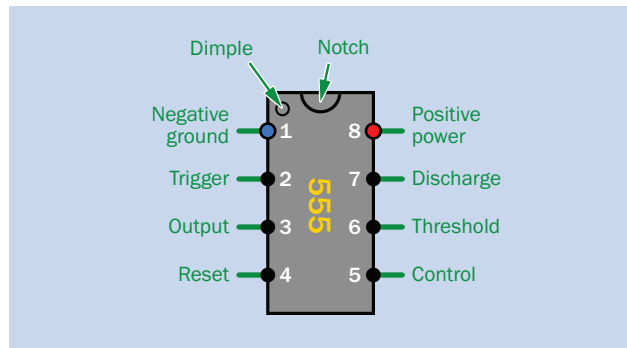
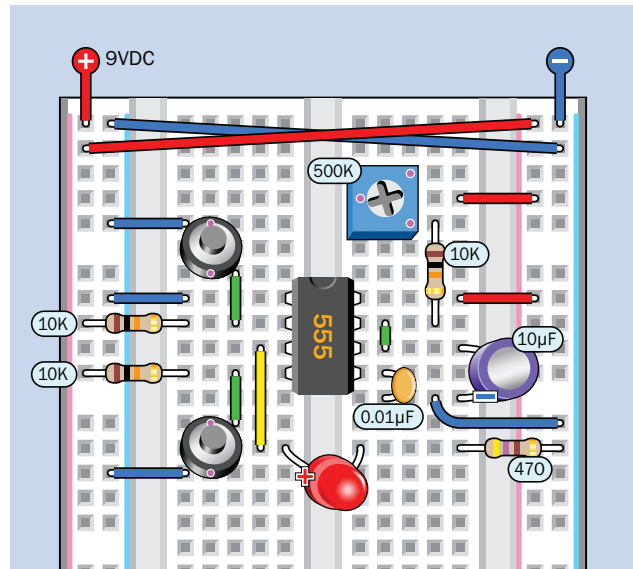
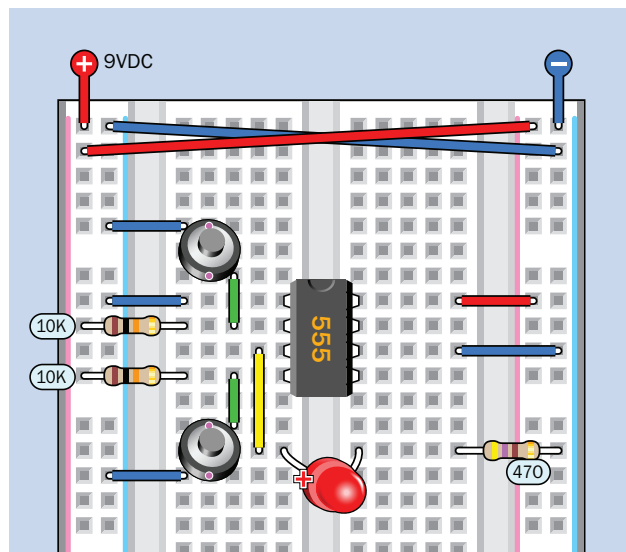

Figure 15-10. Pinouts of a 555 timer.
Figure 15-11. Testing the 555 timer in monostable mode.
Figure 15-18. The timer is now wired in bistable mode.
Figure 15-10 on the next page shows information about the pin functions of a 555 chip, assuming that the timer is viewed from above. Labels like these are often referred to as pinouts for a chip.
Figure 15-11 shows the first circuit which I would like you to build, to test the features of the chip when it is running in *monostable* mode. In that mode, when the timer is triggered by a change in voltage on one of its pins, it creates a single pulse from another pin.
- In this experiment I am starting to use the dual buses of your breadboard, because they make the wiring much simpler. With this in mind, Figure 15-11 includes two long jumpers at the top of the board to distribute positive and negative power along both sides. Please be careful when running power to any chips that you use, as you can cause permanent damage if you don't observe polarity correctly.
Look back at Figure 15-10, and you'll see that Pin 2 of the timer is called the Trigger Pin. In Figure 15-11 you can see that it is connected with the positive bus on the left side of the board, through a 10K resistor. Maybe you remember, I mentioned the concept of a pullup resistor in Section Two. Well, here is an example. Its task is to maintain the Trigger Pin of the timer at the positive supply voltage—until the top button is pressed, which makes a direct connection with negative ground, overriding the 10K resistor. The drop in voltage triggers the timer, which sends a positive pulse out from Pin 3, through the yellow jumper, illuminating the LED.
Just be careful that you never reduce the total timing resistance to zero. That's why I put a 10K resistor in series with trimmer P1 in figures 15-11 and 15-12. Even when the trimmer is turned down to the bottom of its scale, the 10K resistor is still there. If it was not, the capacitor would be connected directly to the positive side of the power supply, so it would charge instantly and then never discharge. Worse still, the Discharge Pin would be connected directly to the power supply, which would damage the chip.
There's another way to use the timer, known as *bistable mode*, which is shown in Figure 15-18. This is like Figure 15-11, but with all the timing components removed, and Pin 6 connected with negative ground. Why would you want to do this?